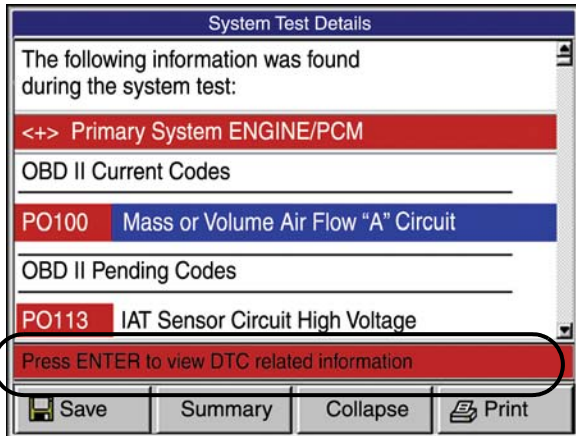

Figure 5.3: System Test Details Screen
With the Automated System Test, System Test Details screen displayed (Figure 5.3), you can select individual lines to view additional information about each test item. The following sections describe the types of test items.
- Follow the steps in the Basic Test Procedure on page 22 to display the System Test Details screen (Figure 5.3).
When you select (highlight) the line for a datastream snapshot (see Figure 5.3 on page 23), if you can view live data readings, the status bar displays the message *Press ENTER to view live datastream*.
When you select (highlight) the line for a freeze frame item (see Figure 5.3 on page 23), if you can view the data, the status bar displays the message *Press ENTER to view Freeze Frame datastream*.
When you select (highlight) the line for a failed Non-Continuous test (Figure 5.3 on page 23), if you can view the component test details, the status bar displays the message *Press ENTER to view component details*.
The System Test Details screen (Figure 5.3 on page 23) may include oxygen sensor test results.
The System Test Details screen (Figure 5.3 on page 23) may include readiness test results.